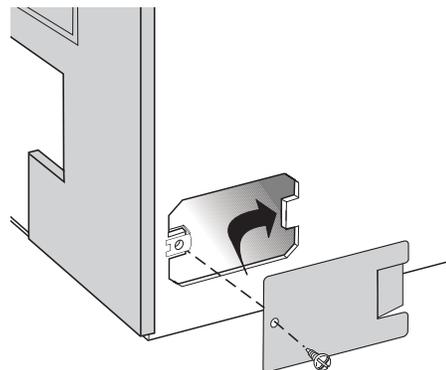

Figure 10. Receptacle Inlet Coverplate installation.
3. Install the inlet coverplate over the inlet opening on the other side of the firebox using the pre-installed sheet metal screw. Fig. 10.